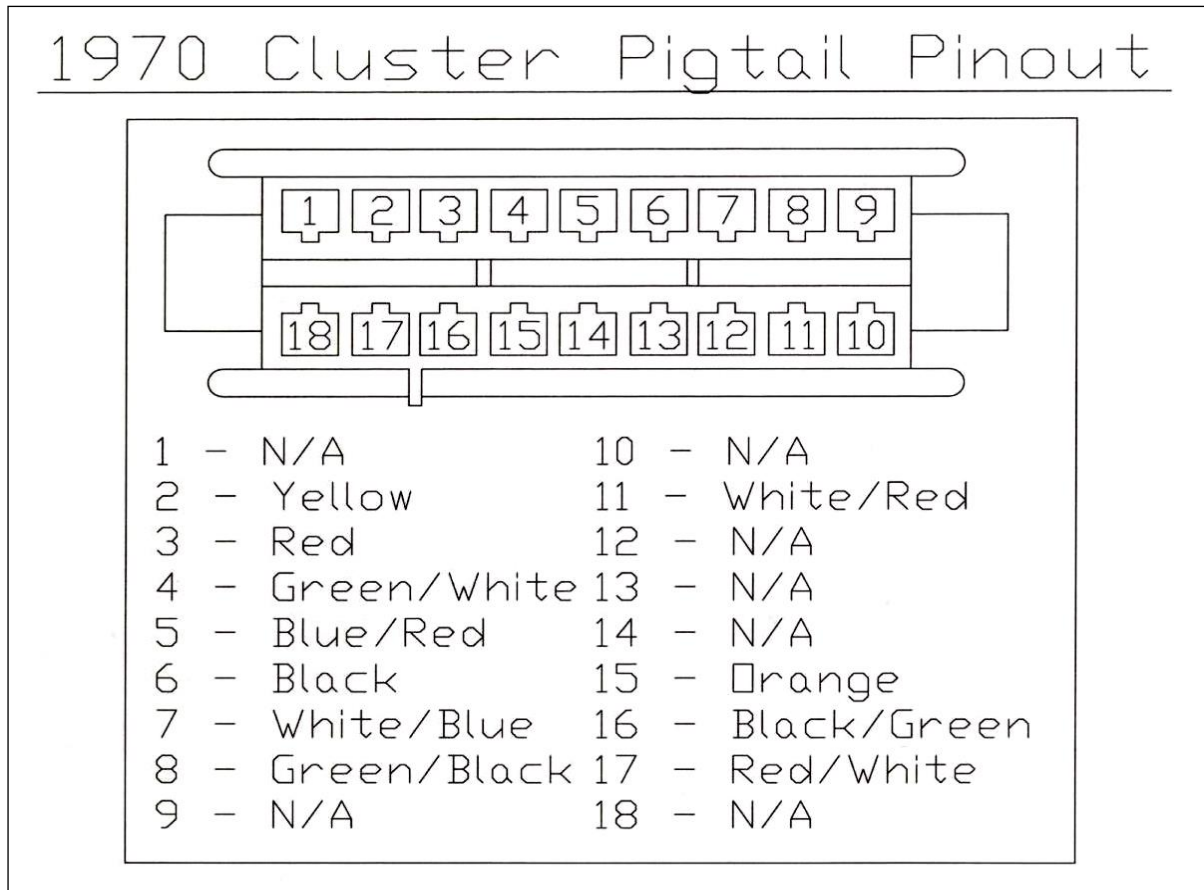

Figure 7-35 1970 Cluster Pigtail Pinout
7.17.1 For the years 1970 thru 1974 locate the '70 – '74 Cluster Pigtail in the harness kit. The connectors from 1970, 1971, 1973 and 1974 Ford trucks are all the same for the gauge clusters. Only 1972 Ford trucks have their own individual connector. The original connector for the gauge cluster must be reused on all trucks. **See Figures 7-35 thru 7-38. Locate the year of the truck being rewired and follow the diagram for the proper pin out.**